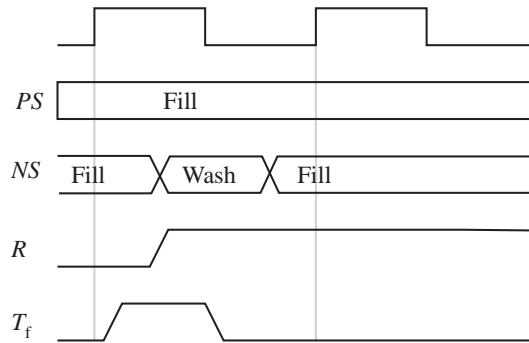

Figure 3: A timing problem for a Mealy FSM communicating with an asynchronous timer.
This is best illustrated with the detailed timing diagram in Figure 3. The present state (PS) of the washer is *Fill* where the drum is being filled with water until the timer asserts the signal  $T_f$ . When this condition happens, the FSM must do two actions:
- Suggest a solution for the FSM timing problem discussed in relation to Fig. 3.